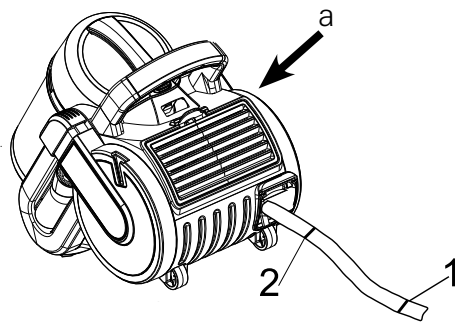

Fig 4/1
**NOTICE:** Do not pull the cord any further than the yellow mark on the power cord. This is the maximum safe length. Do NOT pull the power cord past the red mark (2). This may disable the retraction mechanism for the cord (Fig. 4/1).